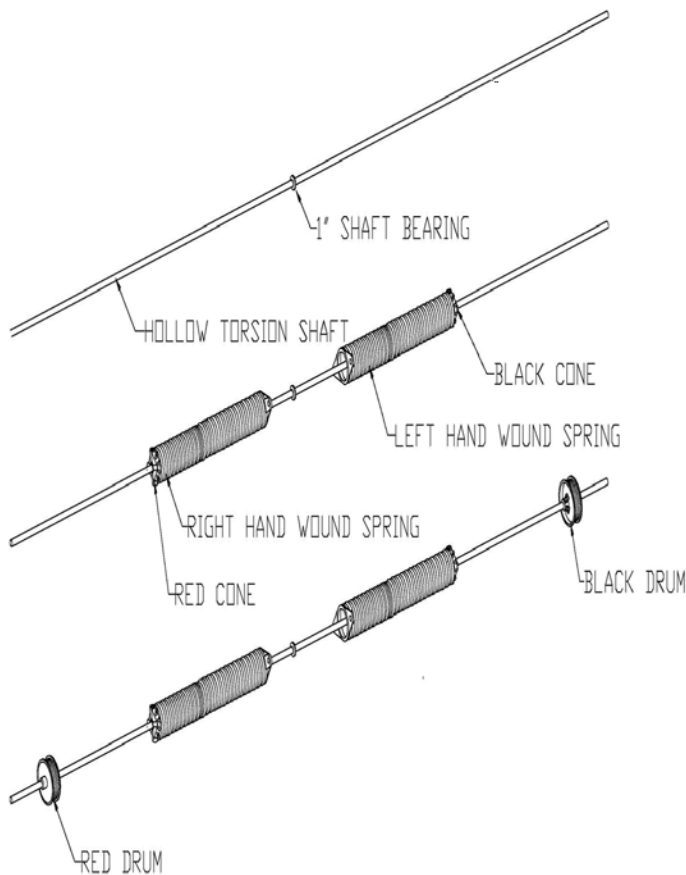

Figure 21
Step 22: Slide the 1" shaft bearing on the shaft. Slide the torsion spring(s) on the shaft. **The springs with the red winding cone should go on the left side and the spring with the black winding cone should go on the right side. See figure 21.**
Step 23: Finally, the cable drums should be slid on the shaft. The red drum should go on the left and the black drum on the right. Make sure the set screws are facing toward the center of the door. See figure 21 or 21a.